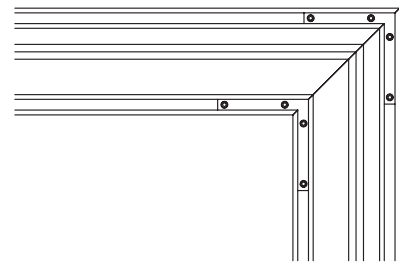

Figure 5
- ② Make sure frame extrusion connectors are fully seated (see Fig. 5).